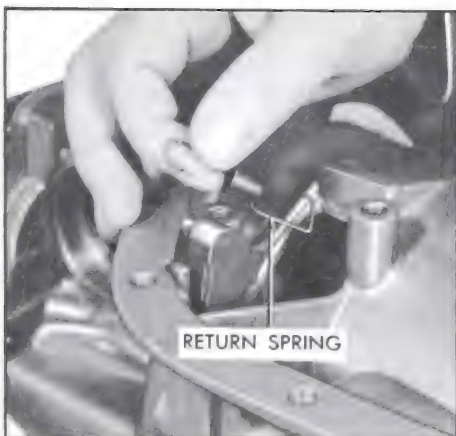

Figure 5-690
4. Install the parking pawl return spring, square end hooked on pawl. See Figure 5-690.